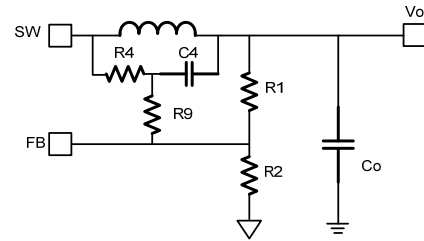

Figure 12: Simplified Circuit with External Ramp
C4 acts as a feed-forward capacitor to improve the transient and can be set in the range of 0 - 1000pF. A larger value for C4 leads to better transient, but it is more noise sensitive. Reserve room for a noise filter resistor (R9) (see Figure 12).
Besides the R1 and R2 divider, the output voltage is influenced by R4 (see Figure 12). R2 should be chosen reasonably. A small value for R2 leads to considerable quiescent current loss, but a value for R2 that is too large makes FB noise sensitive. It is recommended to choose a value within 5 - 50kΩ for R2. Use a comparatively larger value for R2 when V_{OUT} is low; use a smaller value for R2 when V_{OUT} is high. The value of R1 then is determined with Equation (4):